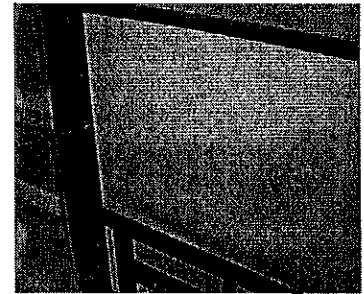

Figure 17. Attaching "Head" mattress foundation piece to frame while frame is in vertical position.
1. Place the mattress foundation piece marked "Head" onto the frame (with rounded outer edges closest to the wall) and carefully return frame to vertical position. Attach the "Head" mattress foundation piece to the frame using four (4) wood screws through the holes provided in the side rails of the bed frame (2 screws on each side). Refer to Figure 17, which demonstrates vertical position of frame for attaching mattress foundation pieces to the frame.
2. Bring frame back down to horizontal position again, and position middle mattress foundation piece directly beneath attached "Head" mattress foundation piece, and carefully return frame to vertical position. Attach middle mattress foundation piece to the frame using two (2) wood screws through the holes provided in the side rails of the bed frame (1 on each side).